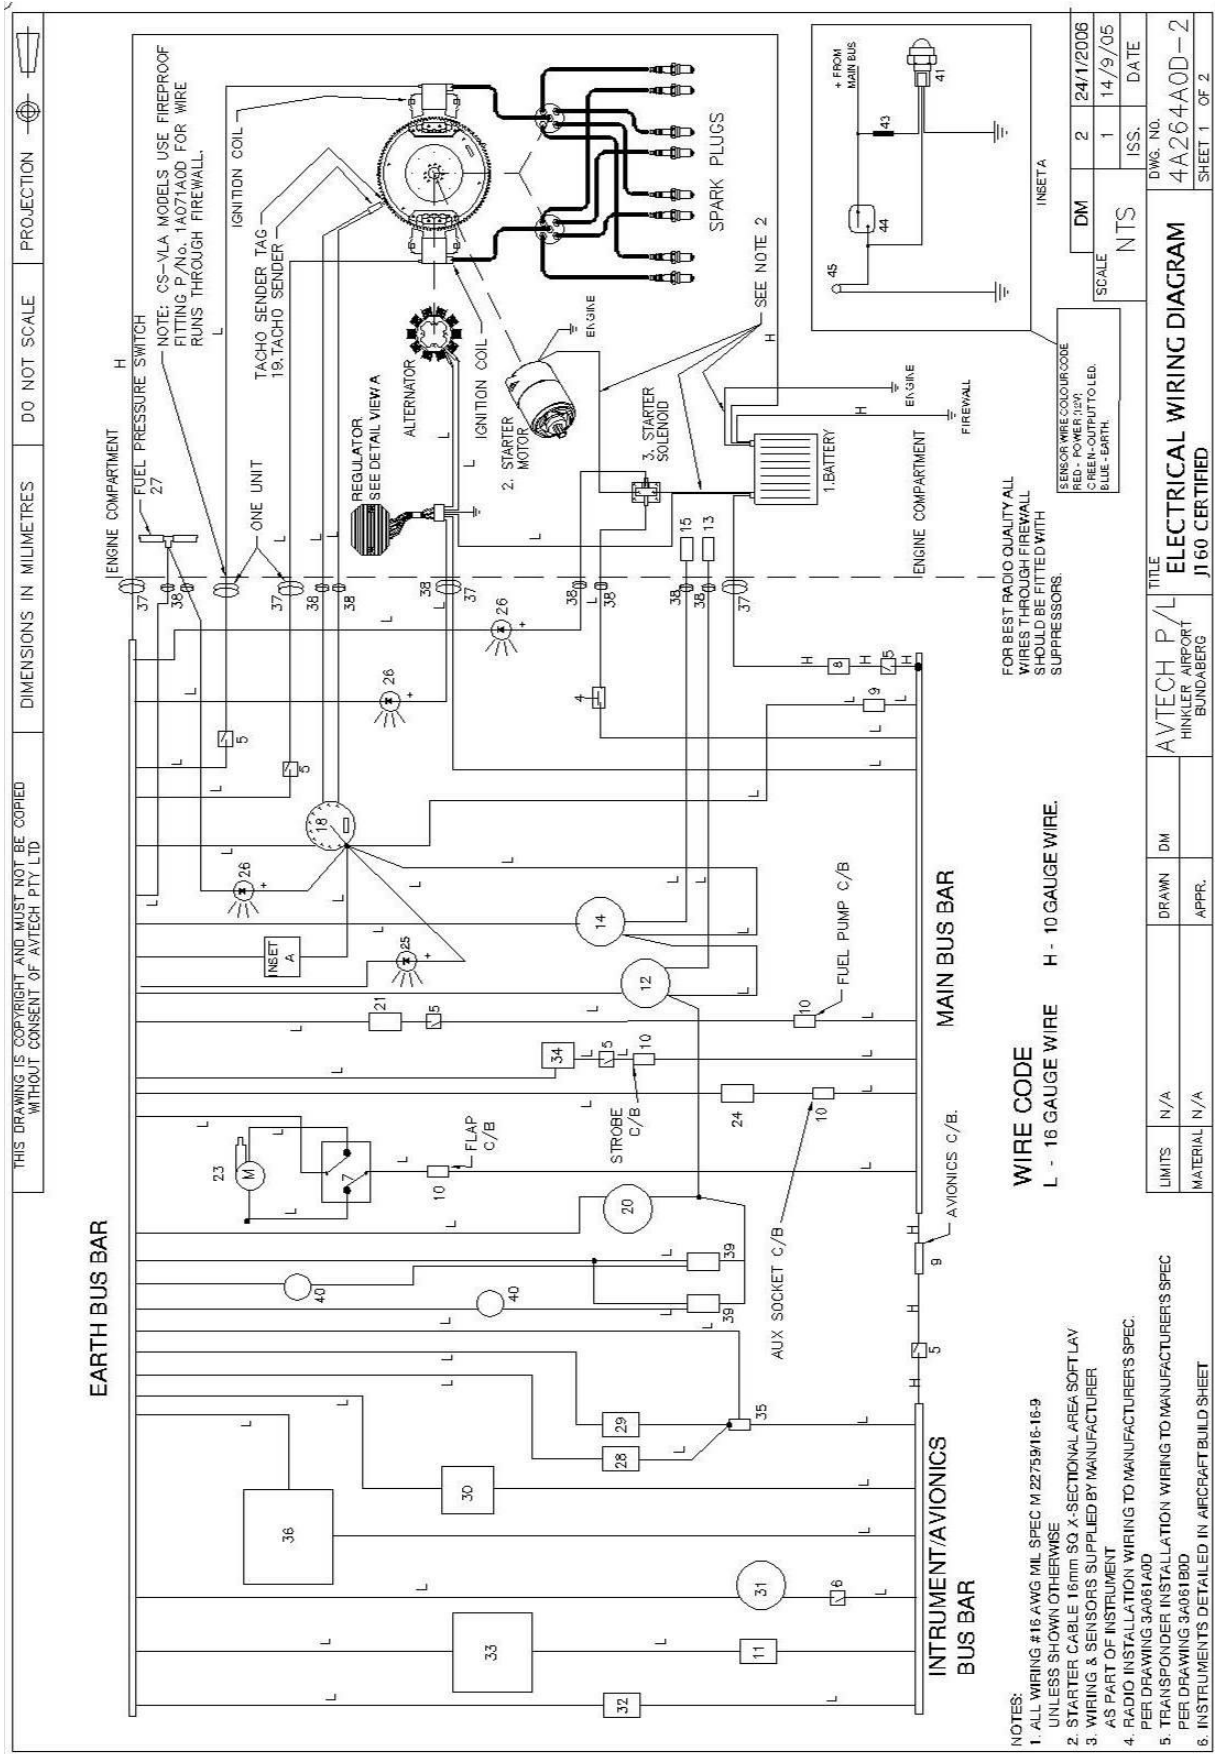

Figure 28. Wiring Diagram
- The ignition is turned OFF by grounding the coils via the ignition switches. This is the reverse of most electrical systems: when the ignition switch is in the open (not connected) position the coil is LIVE and will fire. Wiring details are shown in Figure 28.
- Wiring details are shown in Figure 28.
- General wiring information for the Tachometer is given in the Wiring Diagram, Figure 28. Detailed instructions on it's installation are supplied by the instrument manufacturer.
Suppressor for each wire. The wiring diagram in Figure 28 shows suppressors in schematic form. These suppressors are readily available at local electronics stores.